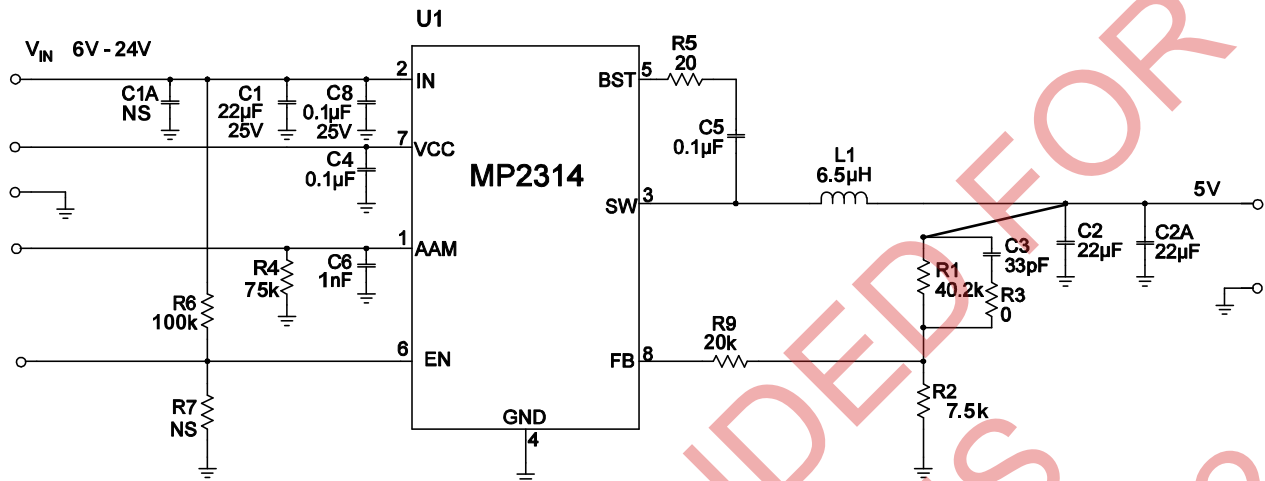

Figure 9:  $V_o=5V$ ,  $I_o=2A$
- 7) The recommended layout is based on the Figure 9 Typical Application circuit on the next page.
The detailed application schematics are shown in Figures 9 through 14. The typical performance and circuit waveforms have been shown in the Typical Performance Characteristics section. For more device applications, please refer to the related Evaluation Board Datasheets.